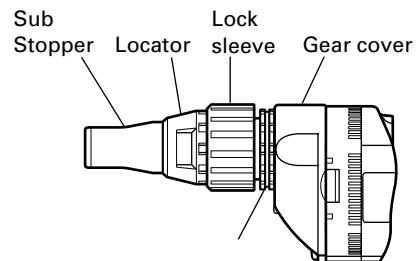

Fig. 3
**7. Adjusting the tightening depth (Fig. 3)**